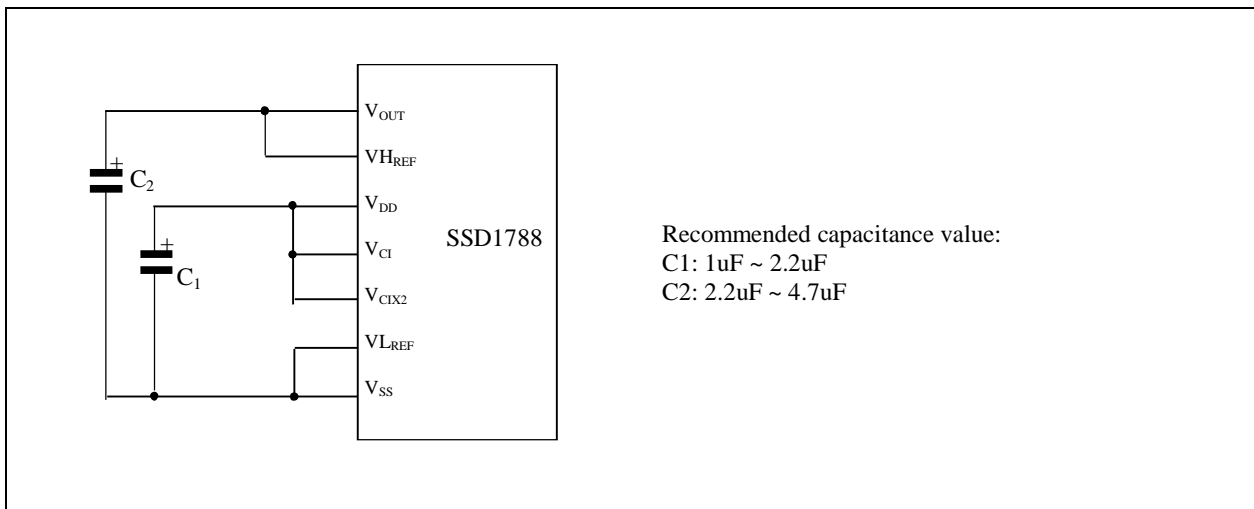

Figure 5 - SSD1788 Hardware Configurations
2. Bias Divider - If the output op-amp buffer option in Set Power Control Register command is enabled, this circuit block will divide the regulator output ( $V_{OUT}$ ) to give the LCD driving levels ( $V_{L2} - V_{L5}$ ). The divider does not require external capacitors to reduce the external hardware and pin counts, power configuration of op-amp is shown on Figure 5 on page 22.